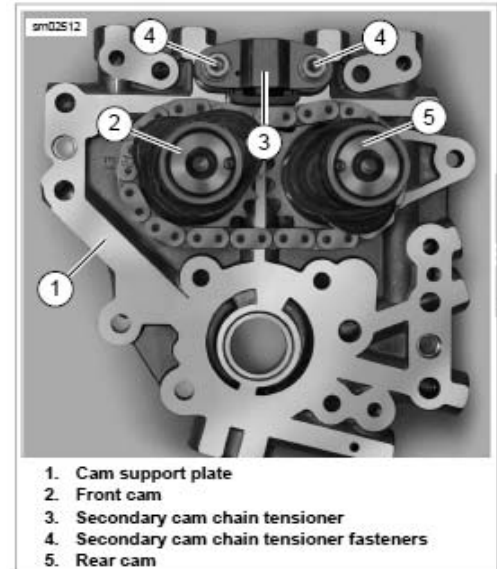

Figure 3-95. Camshafts
11. See figure 3-95. Install secondary cam chain tensioner and fasteners. Tighten to 90 in-lbs.